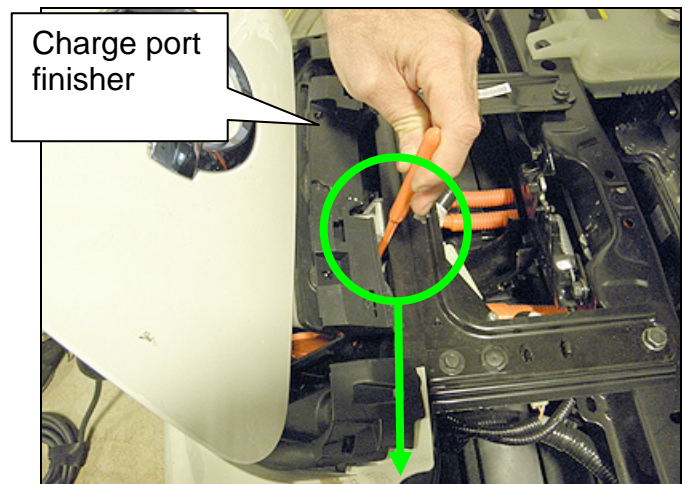

Figure 2
- c. Then disconnect the EVSE charge connector from the vehicle using a pick tool as shown in Figure 2.
- A pick tool with a 90° bend can be used on the connector latch, (shown in Figures 2, 3, 4 and 5) lifting it straight up to release.